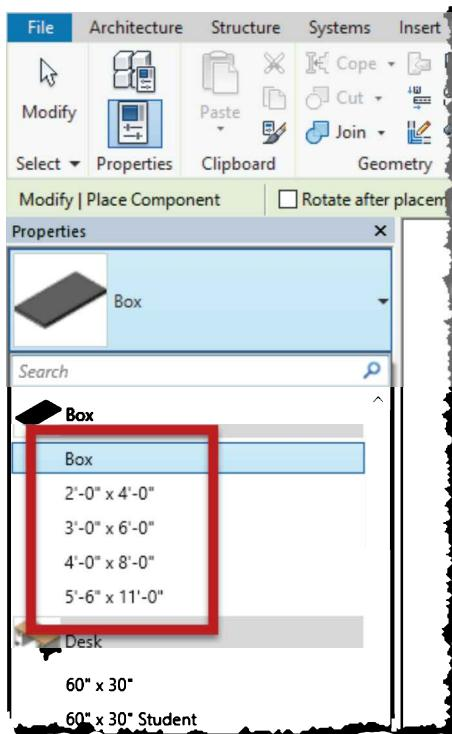

FIGURE 17-5.6 *Type Selector* in the project environment
15. Select the **Type Selector** (Figure 17-5.6).
Looking at Figure 17-5.6, notice all the *Types* created in the *Family Editor* are now available under the *Family* name **Box**. A *Type* named **Box** is also listed because the *Family* was previously loaded without any specific *Types* created, and as mentioned previously, when no *Types* exist Revit will create one with the same name as the *Family*. This can be deleted or renamed in the *Project Browser* within the *Families* section.